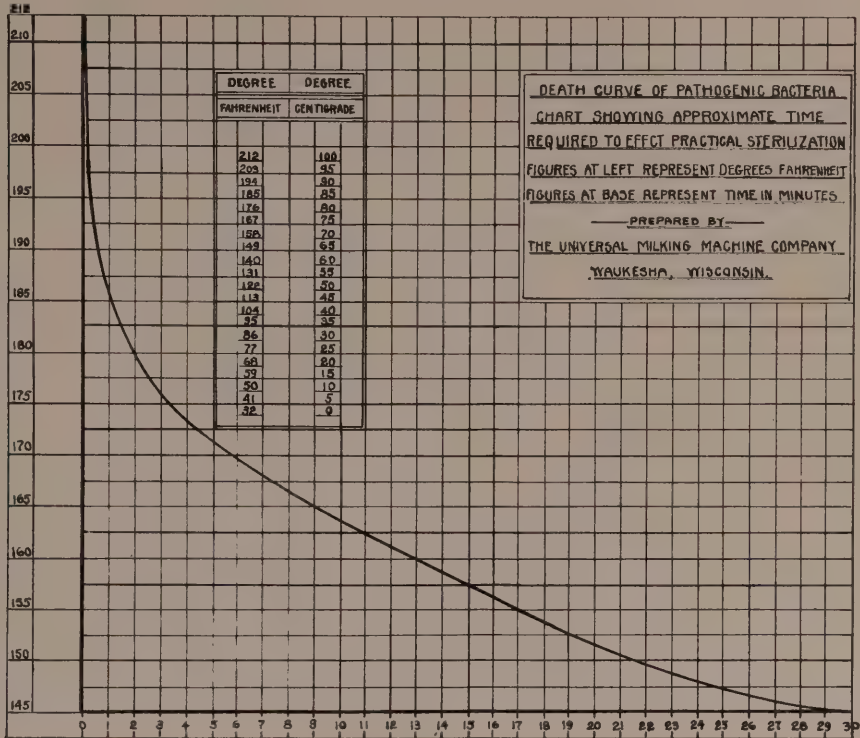

Fig. 25
Teat cups are placed into the boiling water in the heater and approximately 6 quarts of this boiling hot water is drawn through each set (4) of teat cups. If the water is drawn directly from the heater through the milking machine, the greatest possible benefit is derived. If the water is first drawn from the heater into a pail, the temperature of the water will drop considerably and as a result will not be nearly as effective as boiling hot water. See Fig. 25, Page 11, for relative values of hot water for sterilizing purposes.